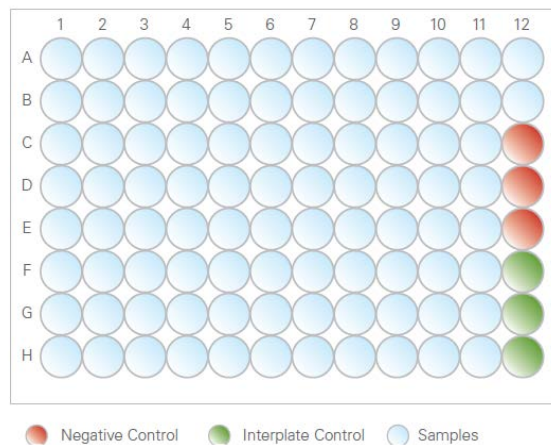

Figure 2. Incubation plate layout
- 5.2.6. Prepare a 96-well plate and label as Incubation plate. Mark the control position on the plate according to plate layout (Figure 2). Use a multi-channel pipette to transfer 3μL of the Incubation mix from the 8-well strip to the bottom of each well of a 96-well plate by using reverse pipetting. Pipette from the uppermost part of the Incubation mix to prevent liquid from sticking to the outside of the pipette tip. Do not change pipette tips
- 5.2.7. Use multi-channel pipette to add 1μL of each sample to the bottom of sample well of the incubation plate, according to the plate layout in Figure 2
5.2.8. Use a multi-channel pipette to add 1µL of negative control and IPC from 8-strip to the bottom of the well in position C12-H12, according to the plate layout in Figure2